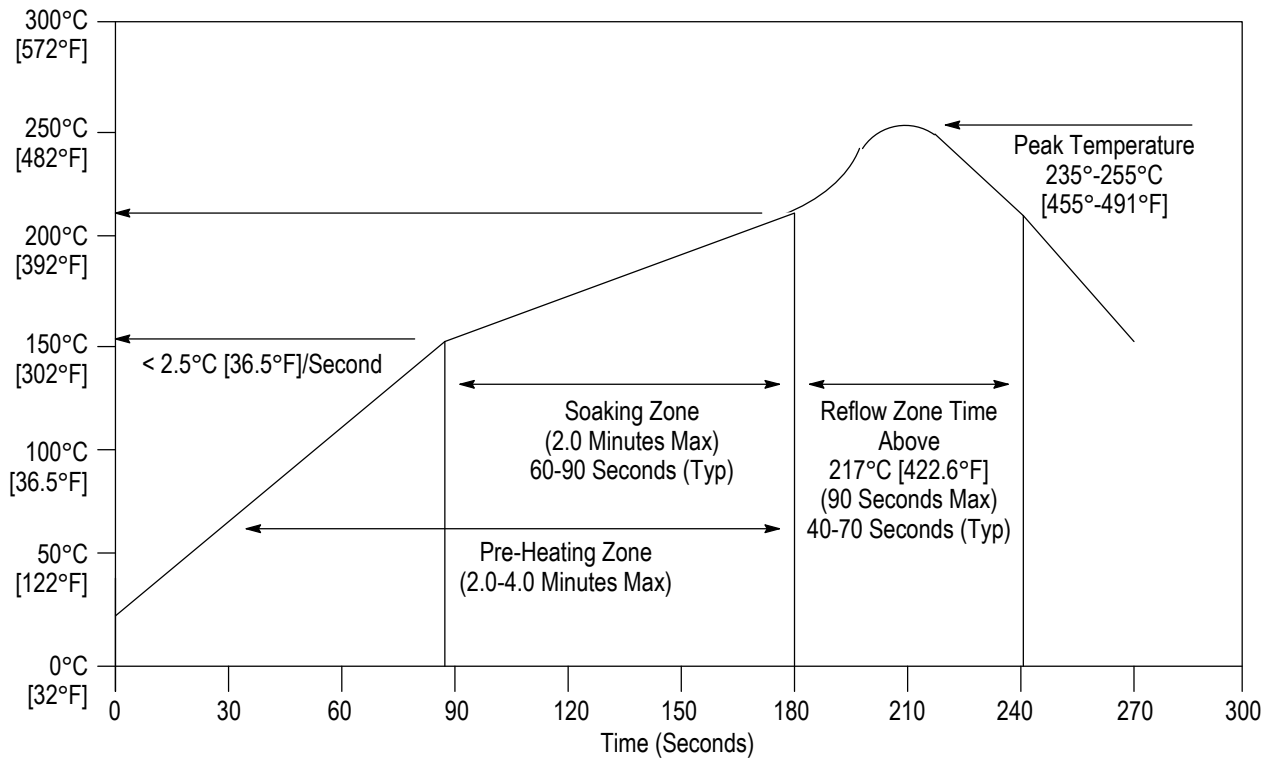

Figure 4
The connector must be soldered using non-focused infrared (IR) reflow or equivalent soldering technique. Reflow temperature and time may vary depending on the size of the host pc board and placement of other components. The reflow temperature and approximate time to which the connector can be subjected is specified in Figure 4.